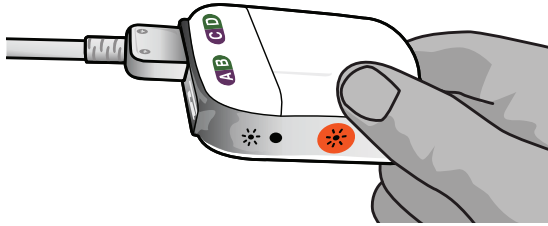

Figure 5: Connection of the 2x8 OR Cable to the External Trial Stimulator 2
3. Connect the OR Cable Extension to the External Trial Stimulator 2 socket labeled “CD” (Figure 5).